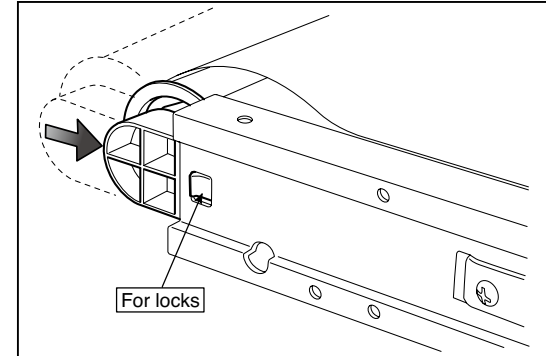

Fig.29
4. Push the Tension Roller Base block shown in the figure 29 into the inside and fix the Tension Roller Bases.